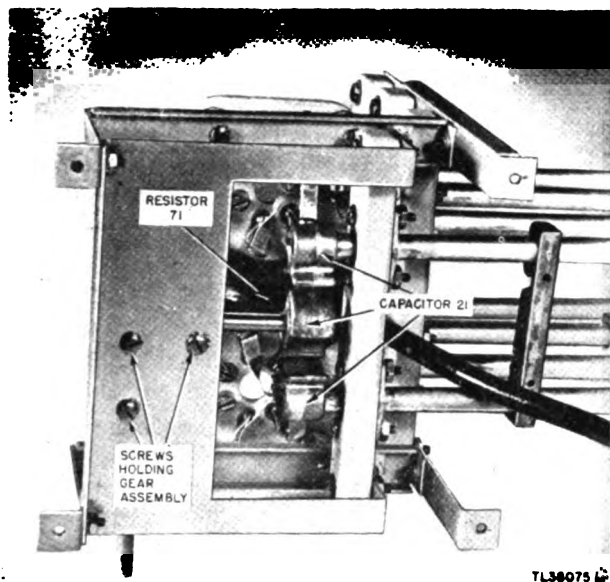

Figure 253. Oscillator assembly, under side, showing capacitor 21 and resistor 71.
y. The gear assembly may now be removed by unscrewing the three screws that have become accessible (see fig. 253).